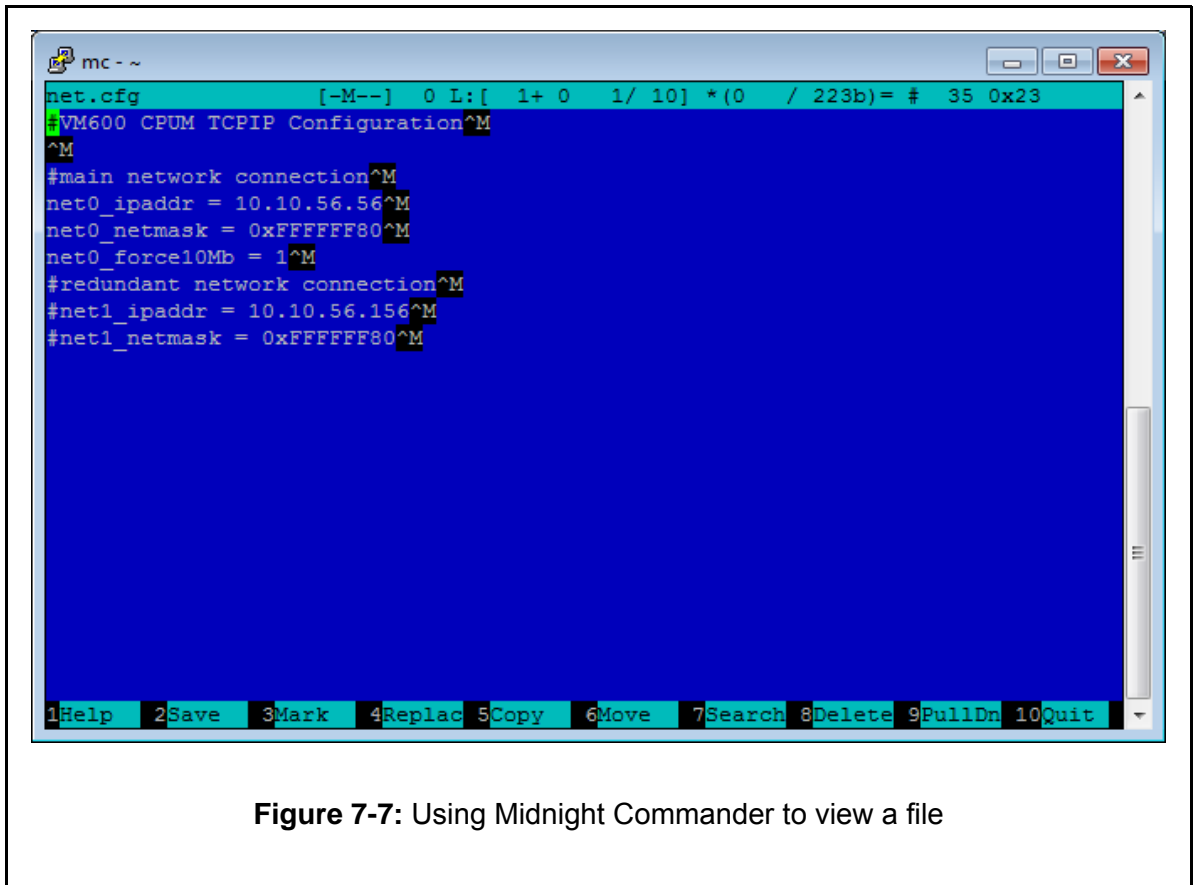

Figure 7-7: Using Midnight Commander to view a file
- 2- To view the file using Midnight Commander, either press the F3 key (View) or use the pointer to click 3 View. The selected file (`version.txt`) is displayed in Midnight Commander, as shown in Figure 7-7.